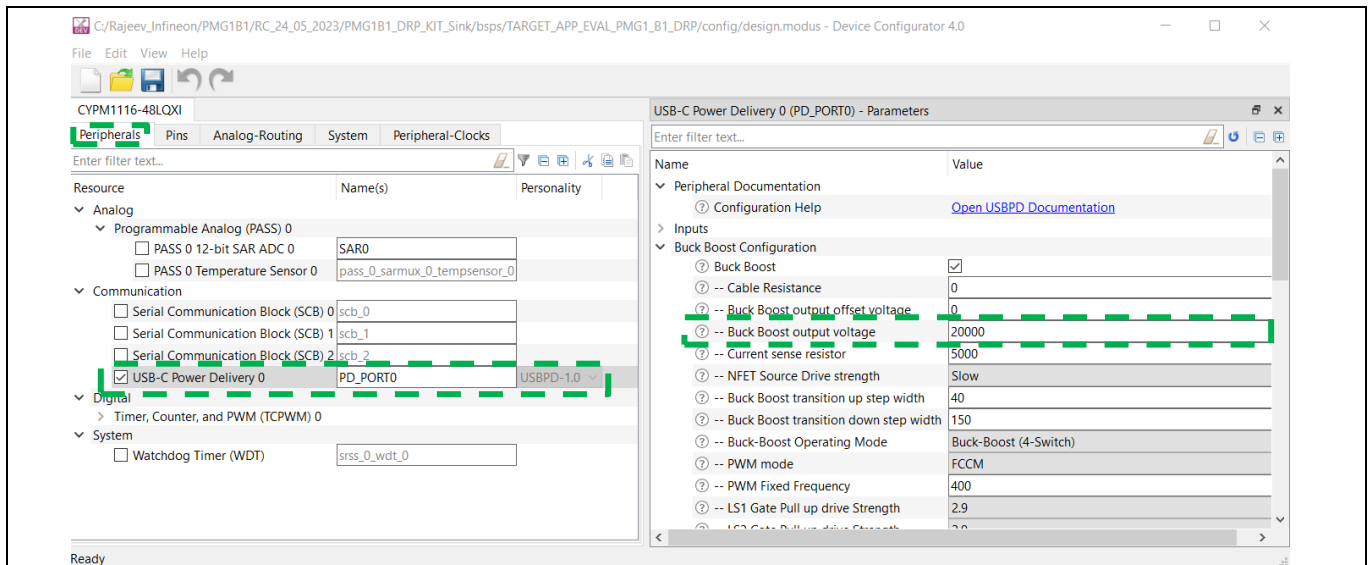

Figure 20 Output voltage is changing through Device Configurator
- Modify output voltage (in peripherals, communication, USB-C Power Delivery 0) as shown in Figure 20. After modifying the voltage to the desired value (5 V to 21 V), save and close the Device Configurator.